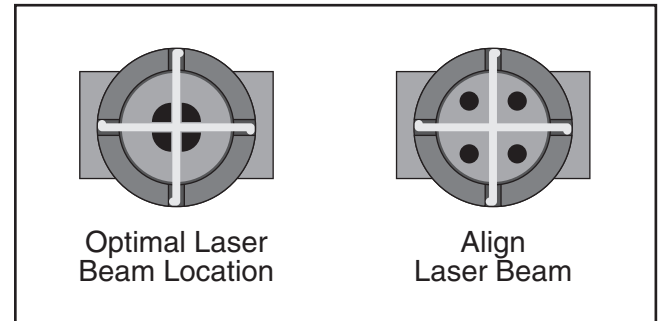

Figure 122. Laser beam alignment marks.
6. Verify mirror adjustment by pressing Pulse button on control panel. Compare results with those shown in **Figure 122** on **Page 76**.
8. Check alignment by pressing Pulse button on control panel. Compare results with those shown in **Figure 122** on **Page 76**.